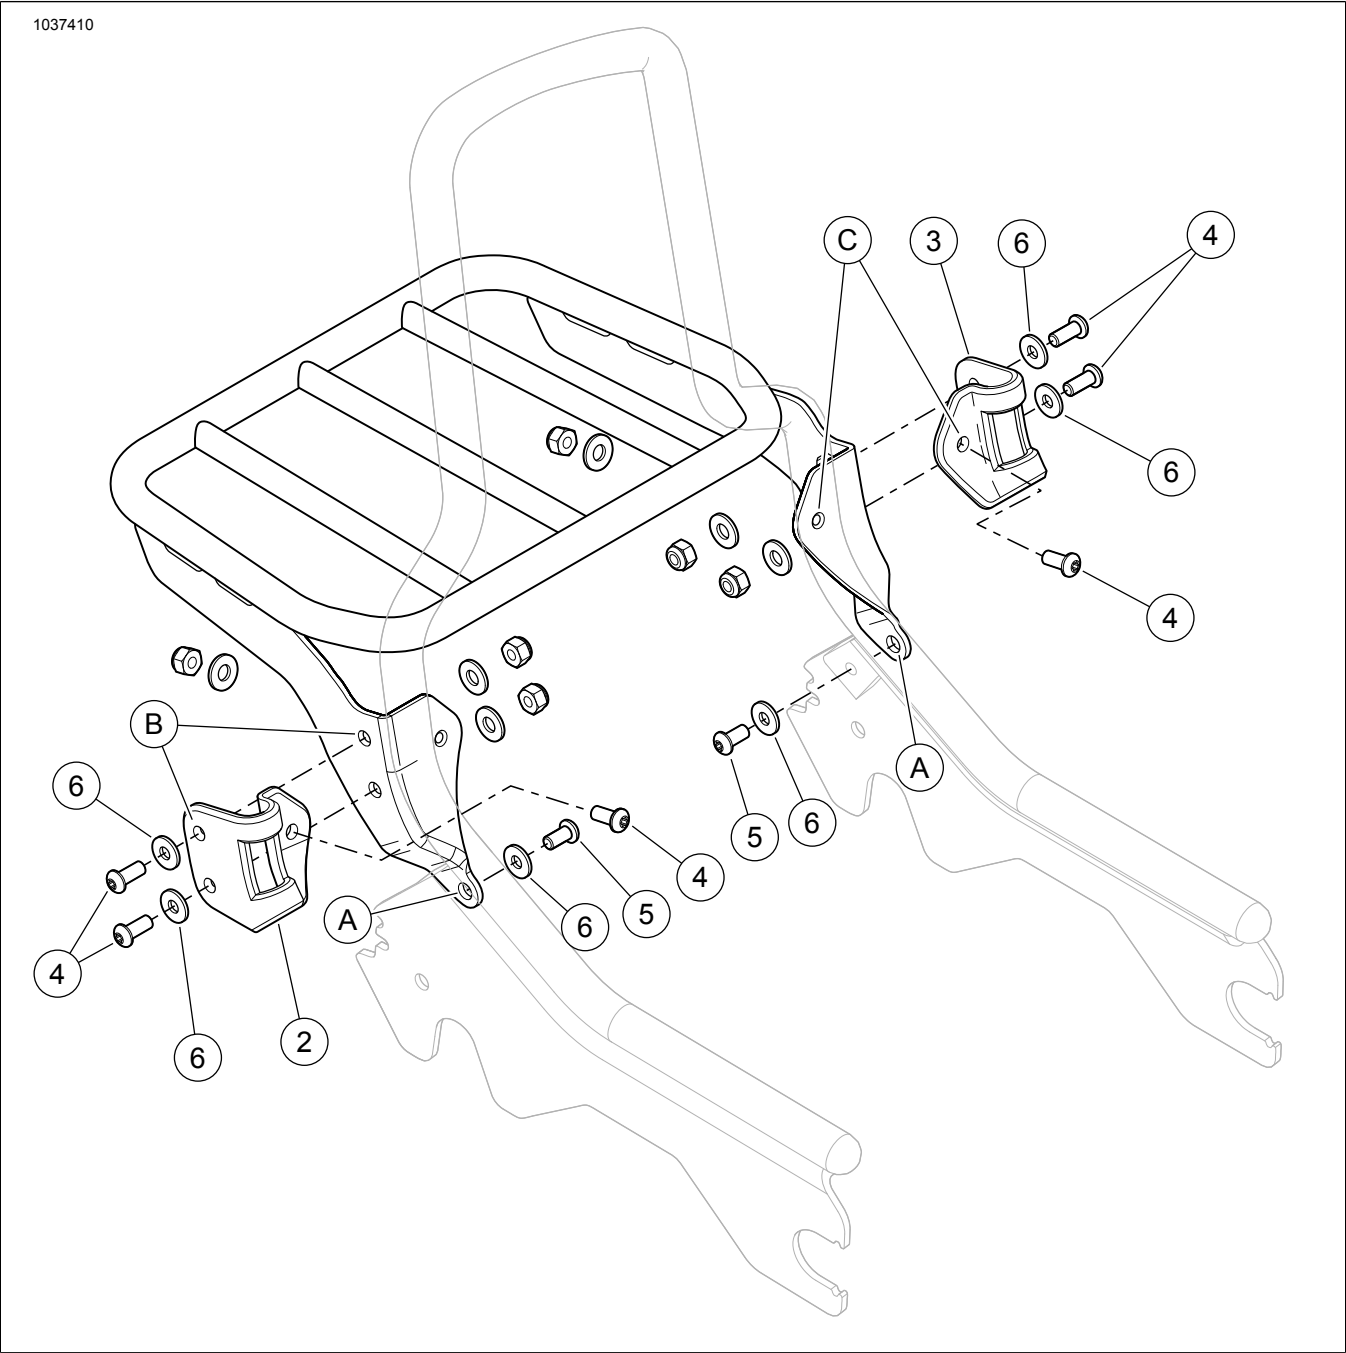

Figure 1. Service Parts, Sissy Bar Upright Mounted Luggage Rack
1. Refer to Figure 1. Position luggage rack (1) between side plates of detachable passenger backrest assembly (purchased separately).
2. Apply a few drops of threadlocker to threads of two screws (5) from kit. Add one washer (6) to each screw. Insert screws through holes (A) in luggage rack support and thread into holes in passenger backrest side plates. Thread in only a few threads. Do not tighten.
The luggage rack clamps are side-specific. See Figure 1 for correct orientation.